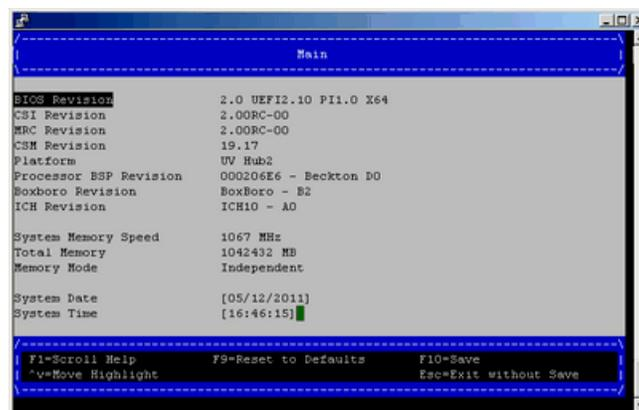

Figure 4-11 Boot Manager Main Screen
3. The **Main** screen appears, as shown in Figure 4-11 on page 59, where you can read the BIOS Revision and other useful information.